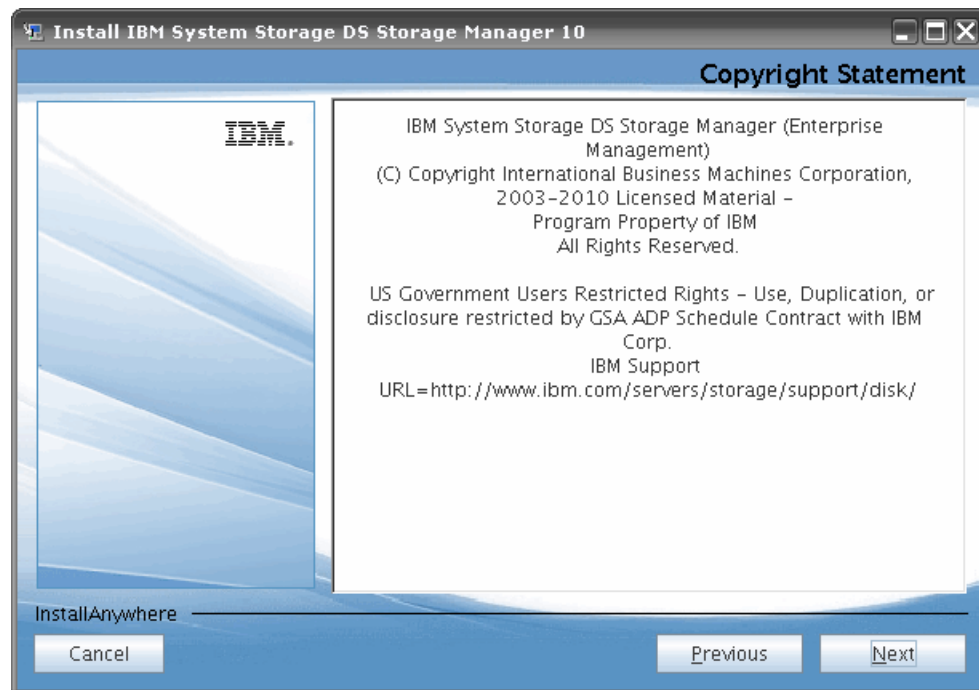

Figure 5-16 Copyright statement
5. Read the copyright statement and click **Next** as shown in Figure 5-16